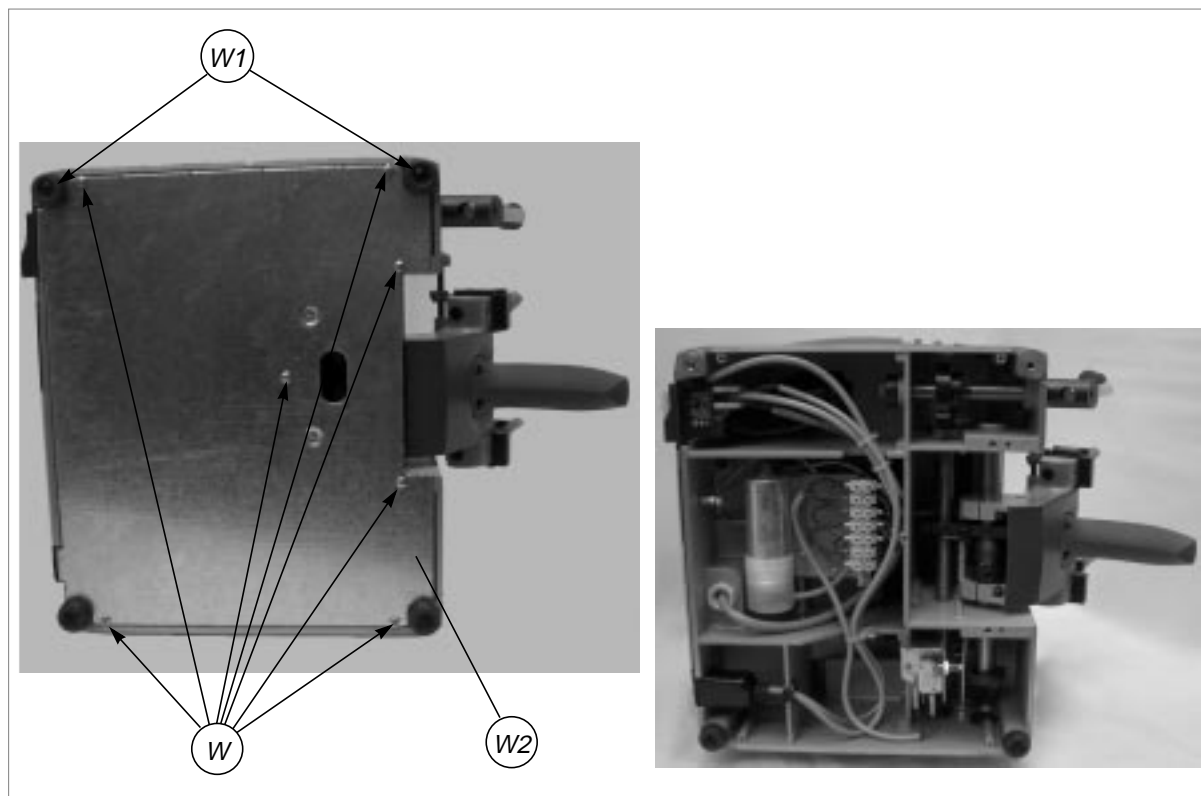
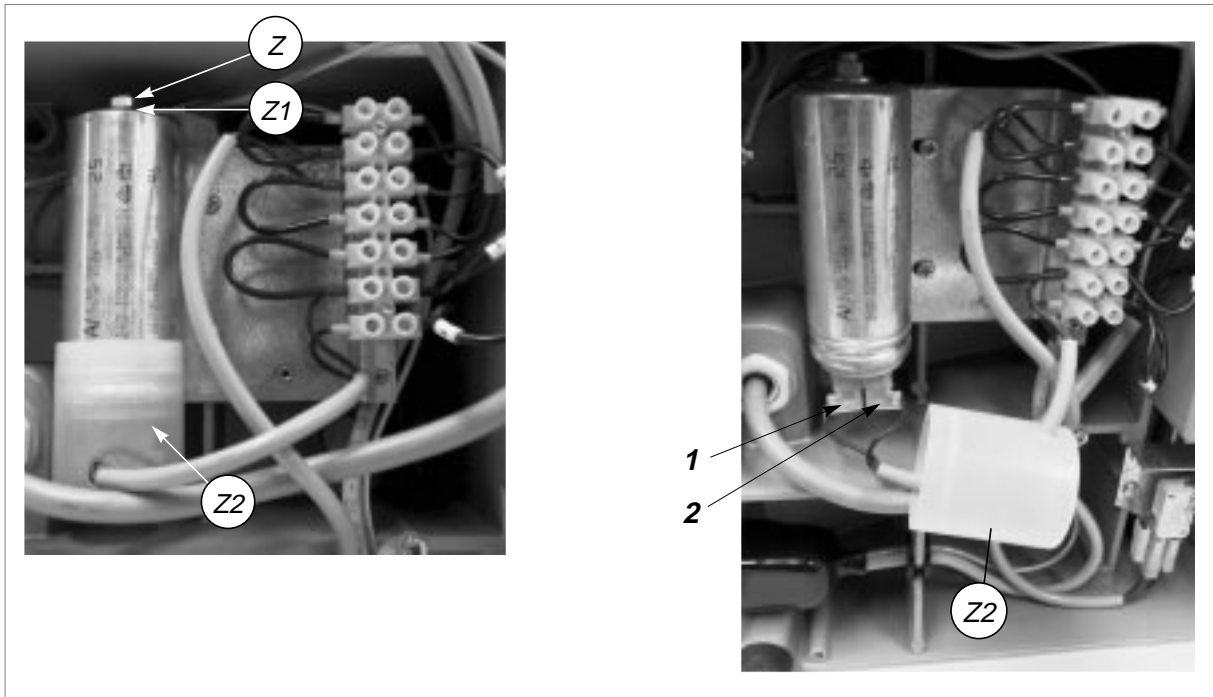

Fig. 25
Fig. 27
- 4) Loosen the 7 screws (W) and 2 feet (W1) and remove the bottom safety plate (W2) (fig.25).
- 3) Loosen the nut (Z) and remove the washer (Z1) and condenser (fig.27).
- 4) Fit the new condenser and fix with the washer (Z1) and nut (Z).
- 8) Replace the bottom safety plate, fix with the 7 screws (W) and 2 feet (fig. 25, page 21). Fit the swarf tray.
- 9) Replace the bottom safety plate and secure with the 7 screws (W) and 2 feet (W1) (fig. 25, page 21). Fit the swarf tray.